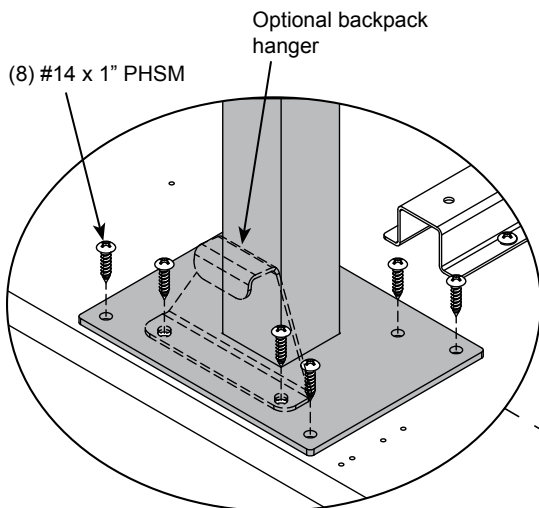

Figure 3.2
2. If you have the optional backpack hangers, use (2) screws to attach each. **Figure 3.2.**